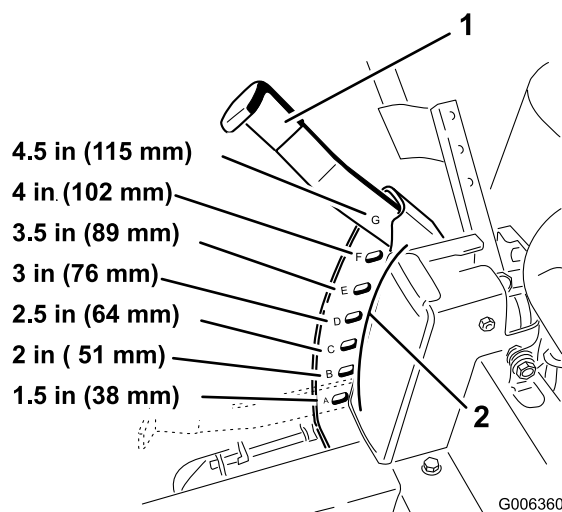

Figure 16
1. Raise the height-of-cut lever to the transport position, cutting height position G (also the 4-1/2 inch [115 mm]) (Figure 16).